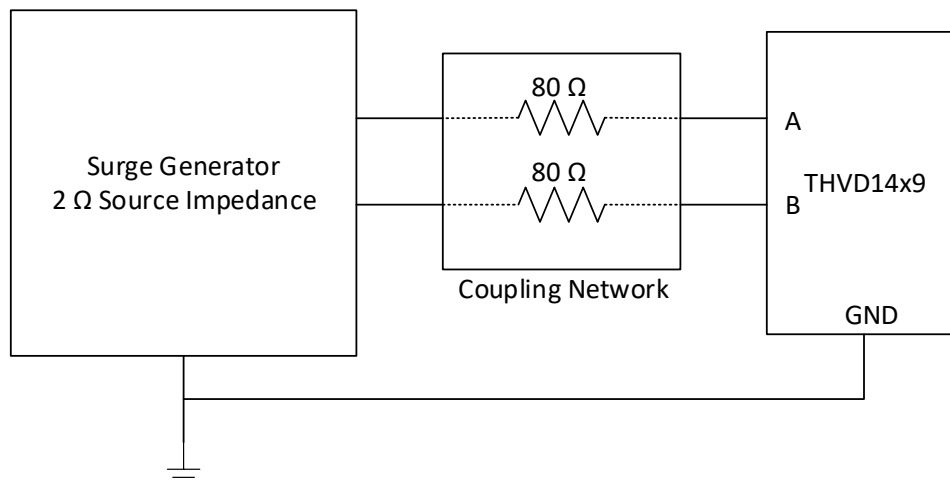
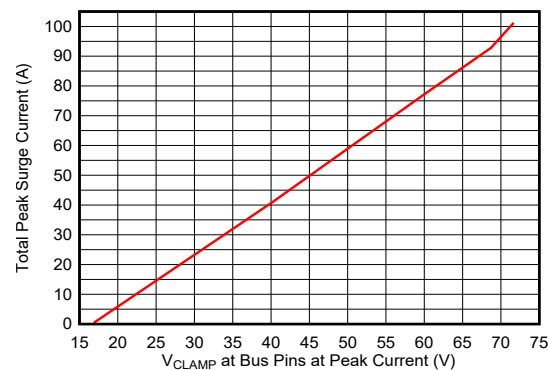

Figure 8-6. THVD14x9(V) Surge Test Setup
Figure 8-8. Clamping voltage at bus pins vs total surge current from the surge generator
Figure 8-6 shows the test setup used to validate THVD14x9 surge performance according to the IEC 61000-4-5 1.2/50-μs surge pulse.
THVD14x9(V) product family is robust to ± 4 -kV surge transients without the need for any external components. The transient current and voltage waveforms resulting from a +4-kV surge test as described in Figure 8-6 are shown in Figure 8-7. The bus pin voltage is clamped by the integrated surge protection diodes such that the internal circuitry is not damaged during the surge event. The clamping voltage at the bus pins for versus the total current from the surge generator is shown in Figure 8-8.